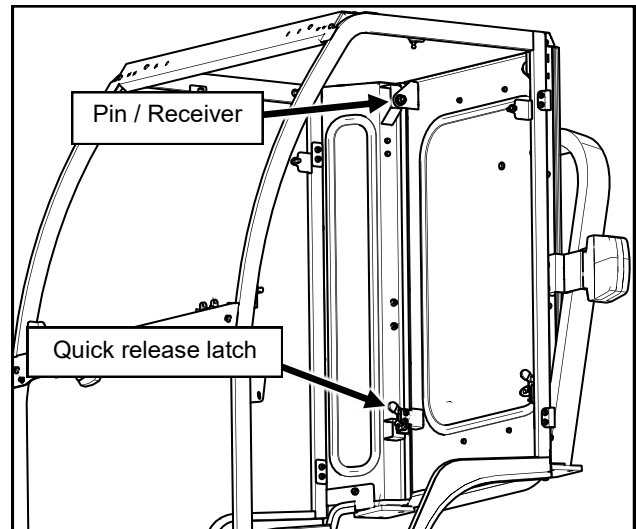

Fig. 10.2 (Rear Leg / Rear Panel Engagement)
10.2 Lift rear panel and slide the upper pins into the receivers on the rear legs. Engage the lower quick release latches at this time. See Fig. 10.2.
*Note: The quick release latches require (2) clicks to be fully locked. Press the rear panel in from the outside in these locations to double click the latches.*